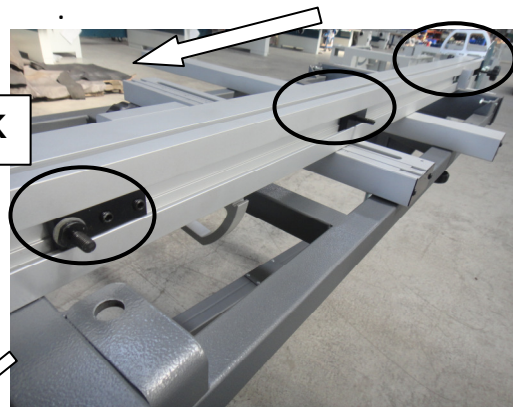

Figure3-4.
- Lock knob **Y&Z**(Fig. 3-4.c)for fixing